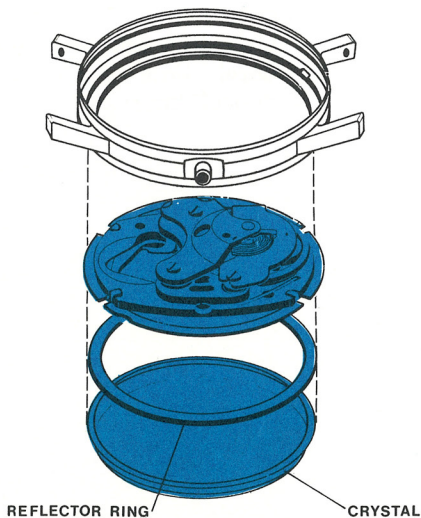

FIGURE 4
- E. Remove Crystal with crystal remover and lift out Reflector Ring and Movement Assembly (see Figure 4).